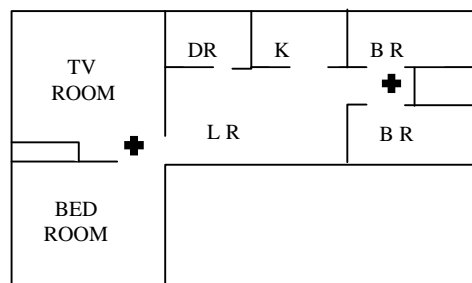

Figure A-2.1.2
**A-2.1.2** In family living units with more than one bedroom area or with bedrooms on more than one floor, more than one smoke detector will be needed, as shown in Figure A-2.1.2